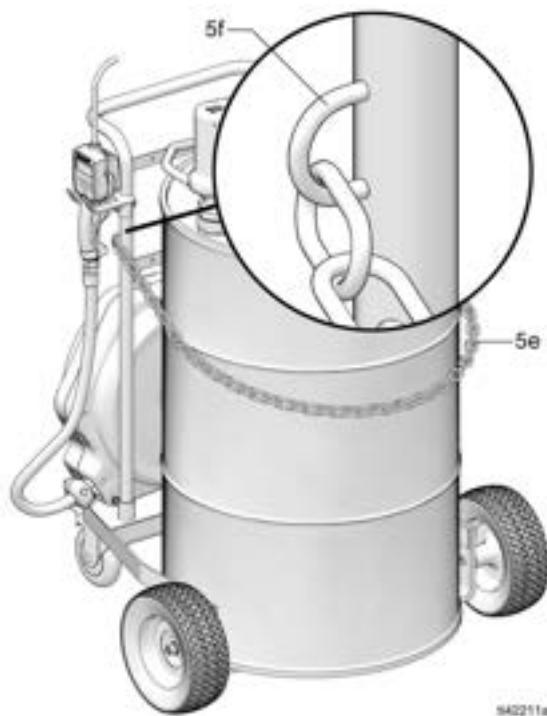

FIG. 35
- Secure a chain (5e) around the drum, as shown in FIG. 35. Adjust the chain to a suitable length for the drum size. Connect the ends of chain to the two ear brackets (5f).